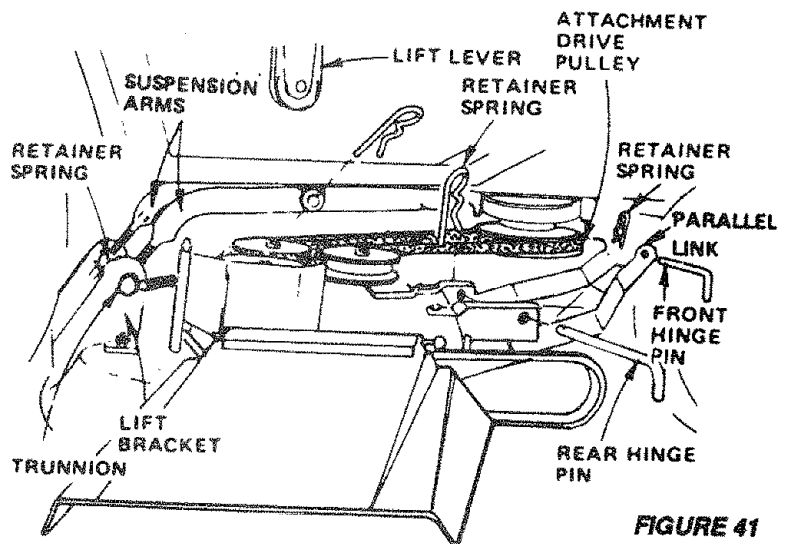

FIGURE 41
- b. To raise rear of mower, loosen nut "E" on both rear suspension arms. Screw both nuts "F" up an EQUAL NUMBER OF TURNS (Fig. 41).
- Pull retainer springs out of rear suspension trunnions. Remove rear suspension trunnions from lift brackets (Fig. 41)
- Pull retainer spring out of rear hinge pin. Remove rear hinge pin (Fig. 41).
- Pull retainer spring out of front hinge pin. Remove front hinge pin (Fig. 41) and parallel link.
BEFORE DRIVING YOUR TRACTOR, INSTALL MOWER OR REMOVE PARALLEL LINK (FIG. 41).
NOTE: IF AN ATTACHMENT OTHER THAN THE MOWER DECK IS TO BE MOUNTED ON THE TRACTOR, THE L.H. AND R.H. SUSPENSION ARMS (FIG. 41) SHOULD BE REMOVED.